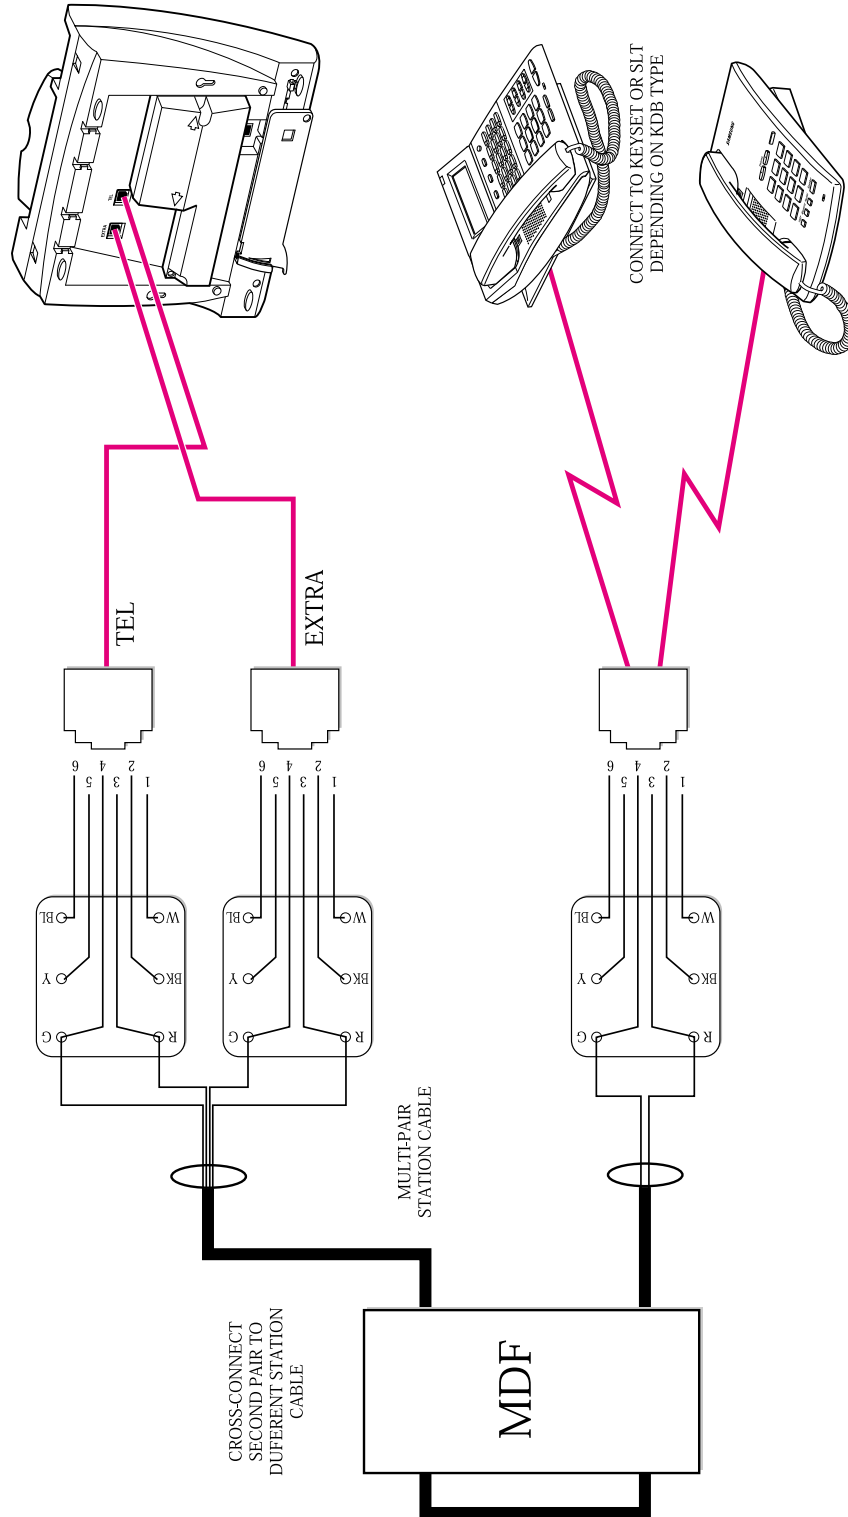

FIGURE 8-7 CONNECTING A STATION DEVICE TO A KDB VIA THE MAIN DISTRIBUTIONFRAME (Euro KTS)
7. Connect extra modular jack with a general phone. (See Figure 8-7 & 8-8)
7. Connect extra modular jack with a key phone. (See Figure 8-7 & 8-8)
See Figure 8-7, 8-8 and 8-9.